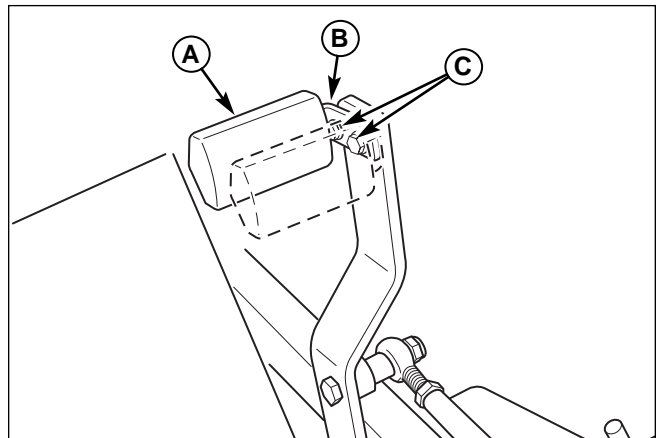

Figure 37. Foot Pedal Adjustment
1. Remove the foot pedal (A, Figure 37) from the pedal mount tab (B).
2. Remove the pedal mount hardware (C) and rotate the tab 180 degrees.
4. Reinstall the foot pedal on the pedal mount tab in the proper orientation as shown in Figure 37.